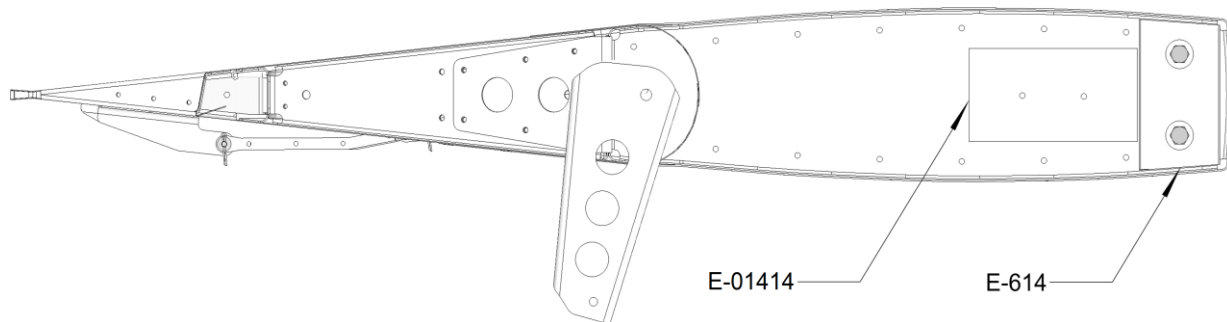

FIGURE 13: E-1414 POSITION
Step 15: Wait for the fuel tank sealant to cure, then close the leading edge by installing forty-eight (48) AD-41-ABS rivets to reconnect the upper skin to the lower skin. See KAI Section 9.
Step 16: Position the E-01414 Counterweight immediately aft of the E-614 Counterweight on the right (inboard) side of the left elevator tip. See Figure 13.